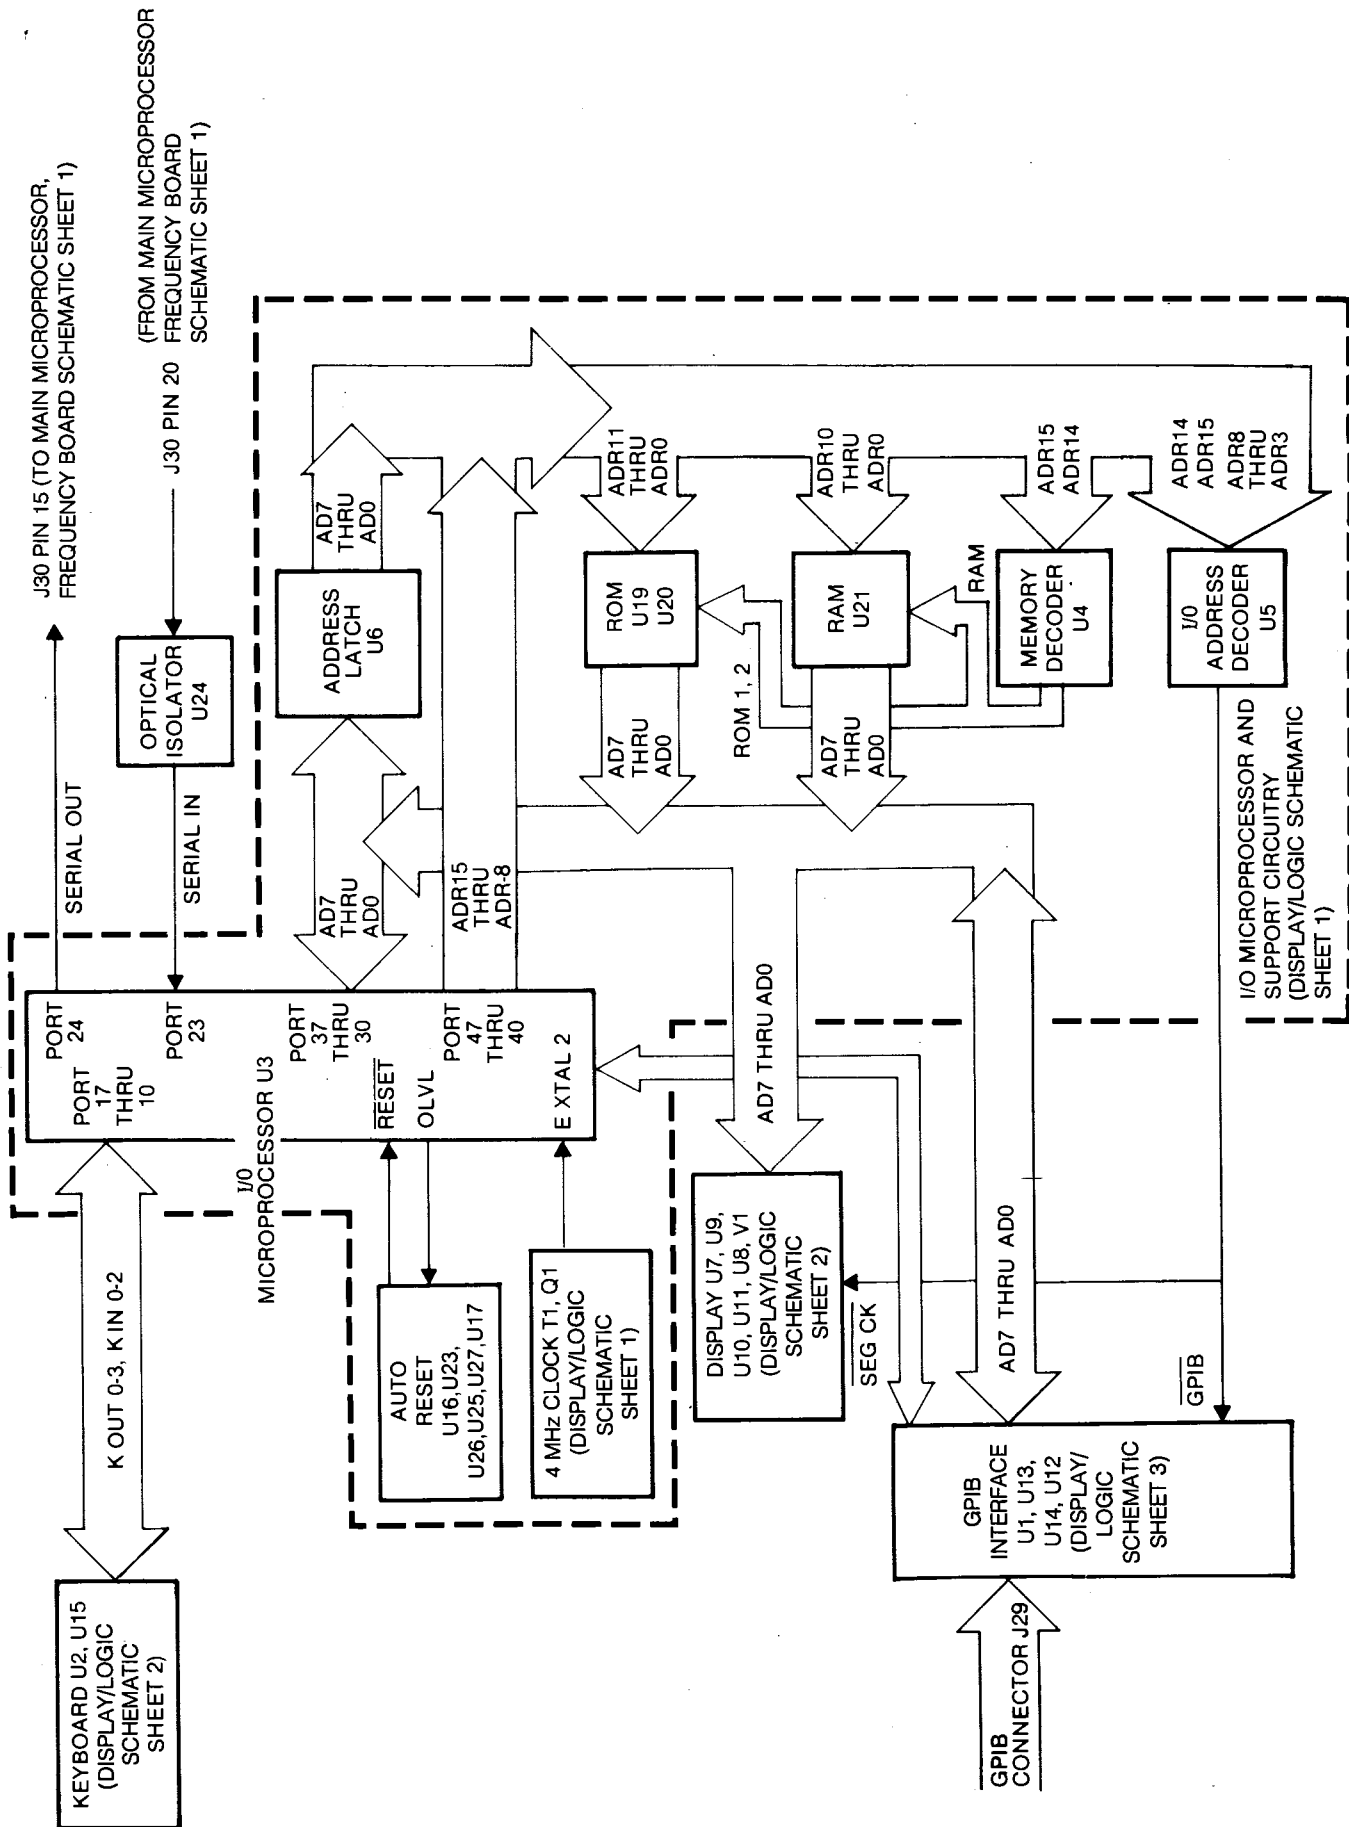

Figure 4-21. Front Panel Circuits
**Address Latch** The address latch U6 (ref: figure 4-21 and Display/Logic schematic sheet 1, coordinates D4) is used to select the lower address bits (ADR0-7).